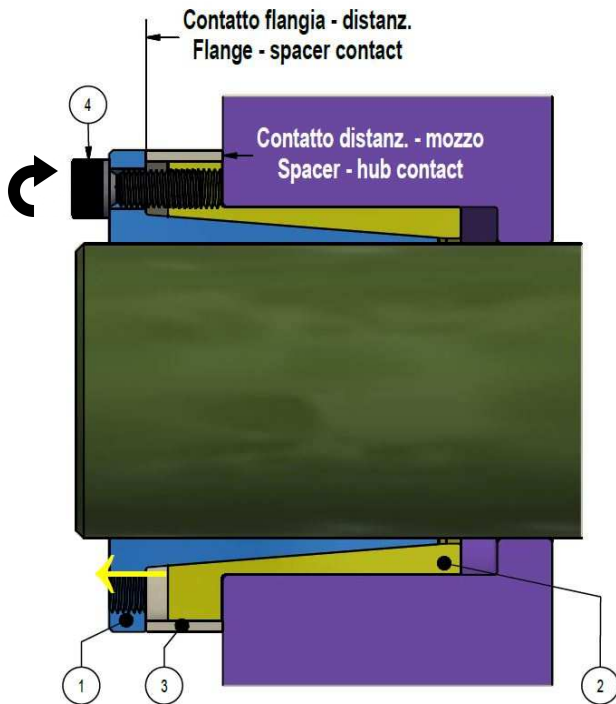
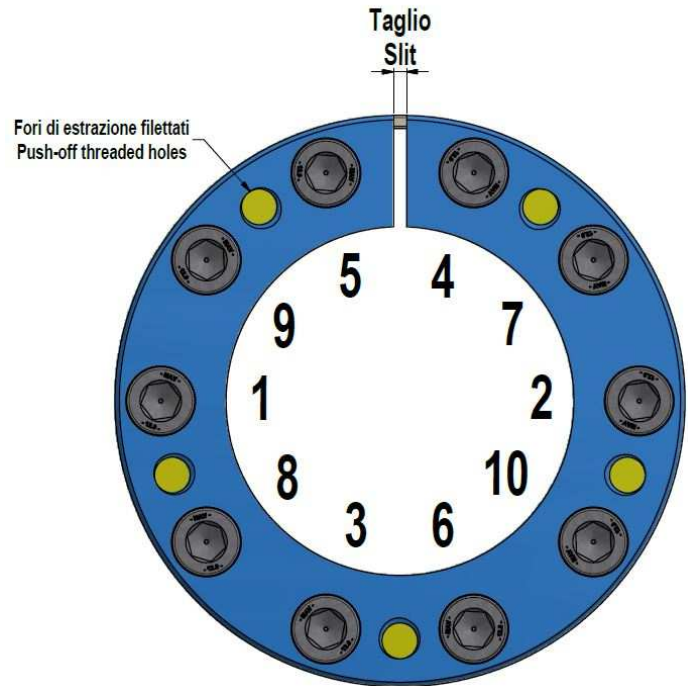

Fig. 3. Pre-tightening.
Fig. 4. Example of tightening pattern.
4. Tighten the screws by hand in a crosswise pattern, starting with a screw located at 90° approx. respect to slit (fig. 4), until the **spacer ring is in full contact with inner ring's flange and face of the hub** (fig. 3), fitting clearances with shaft and hub bore are bridged and connected components are slightly locked, while making sure that hub is aligned as required using a dial indicator. **Better centering of hub from the beginning of installation is essential for better centering when installation is completed.**
5. Use a torque wrench set approx. 5% higher than specified tightening torque (M_a), or reduced within admissible value. **Progressively tighten the screws in a crosswise pattern (fig. 4), using approx. ¼ turns for several passes until ¼ turns can no longer be achieved.** Start with a screw located at 90° approx. respect to slit; screws adjacent to slit shall be tightened in a row.